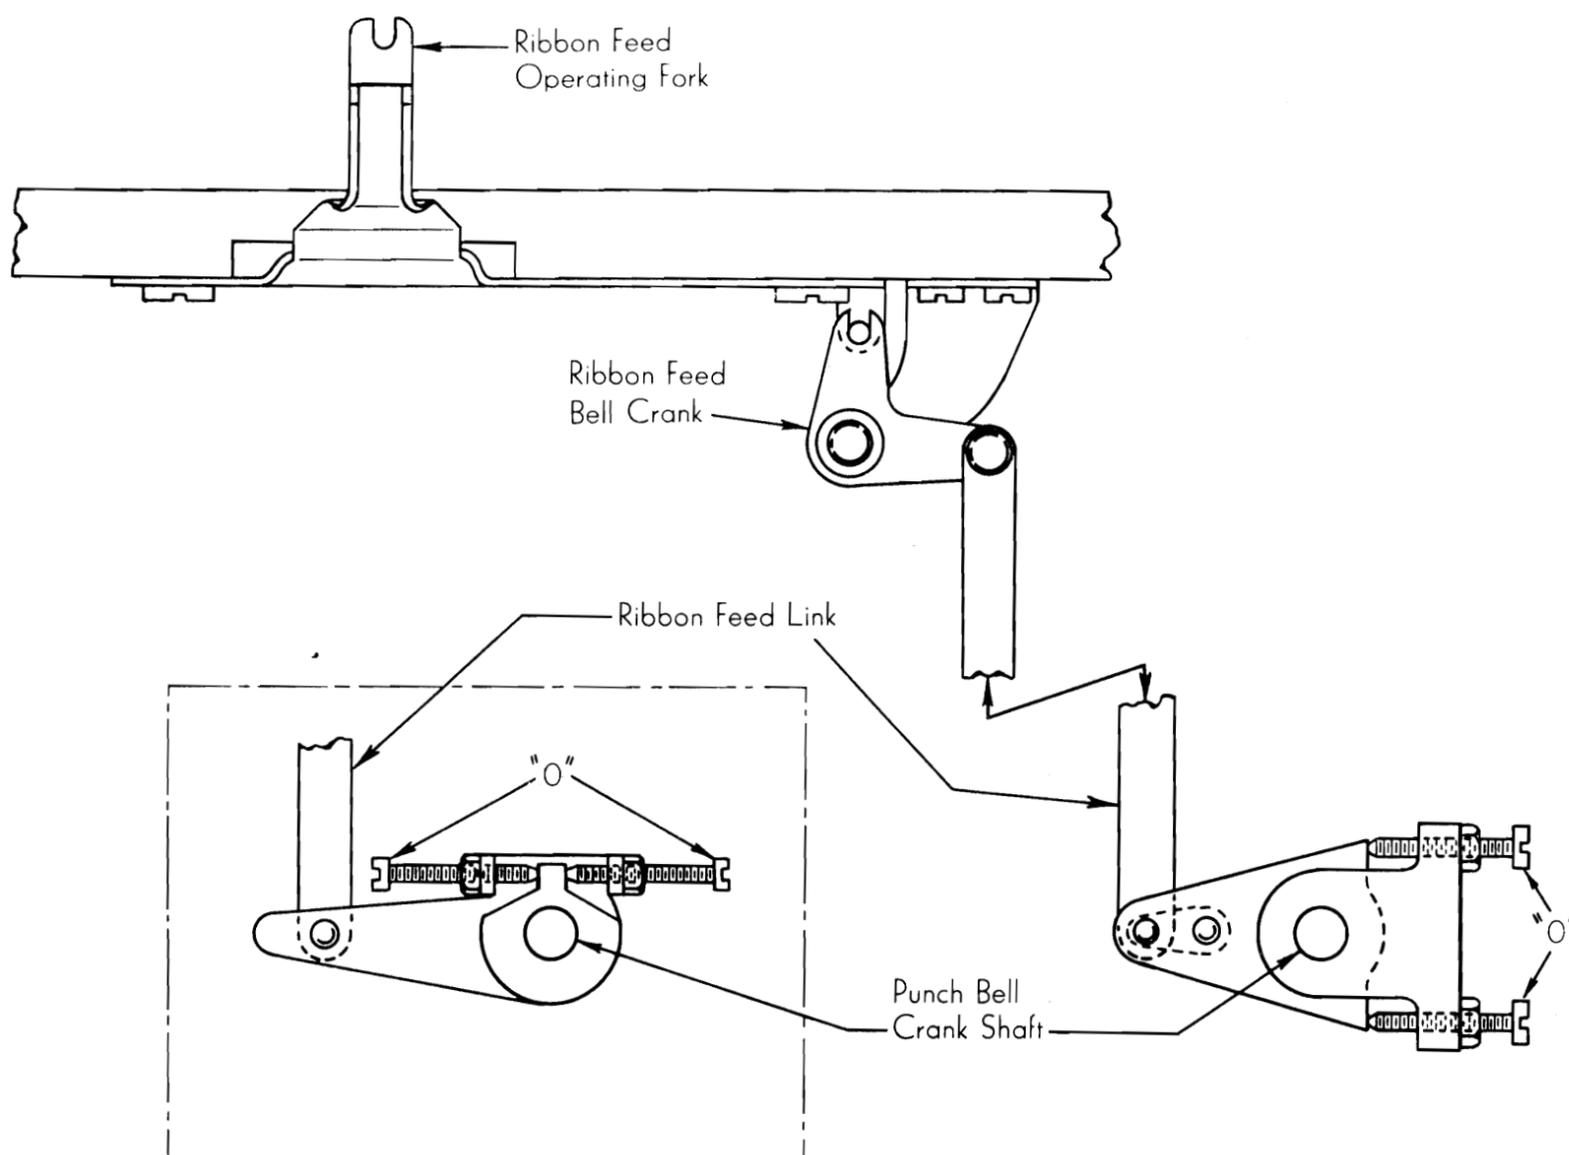

FIGURE 24
Ribbon Spacing Adjustments—Figure 24
4. Check operation of ribbon feed mechanism by manually operating machine. When correctly adjusted, the ratchet operating pawls should have the same amount of travel after engaging their feed ratchets so that the two ratchets are operated the same distance. This can be observed from the rear of the machine by moving the carriage first to one end, then to the other. Check while operating the machine by hand. The ribbon feed operating fork should not bind at either end of the stroke. On the earlier 036 machines, it will be found that the adjusting mechanism appears as in the insert, Figure 24. In this case the adjustment is the same, but one of the screws must be reached from the front.